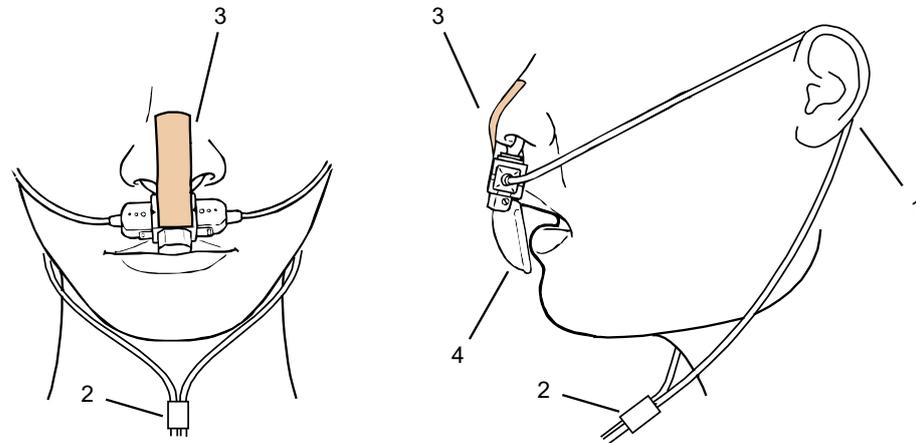

Fig. 6-27 Fitting the disposable CO₂ nasal(/oral) adapter on the patient
- Position the sensor cable behind the ears (Fig. 6-27, item 1) and slide the fastening ring (Fig. 6-27, item 2) loosely towards the chin.
- Attach the disposable adapter to the nose with the adhesive tape provided for this purpose (Fig. 6-27, item 3).
- The oral breath collector (Fig. 6-27, item 4) must not be more than 10 mm away from the lower lip.